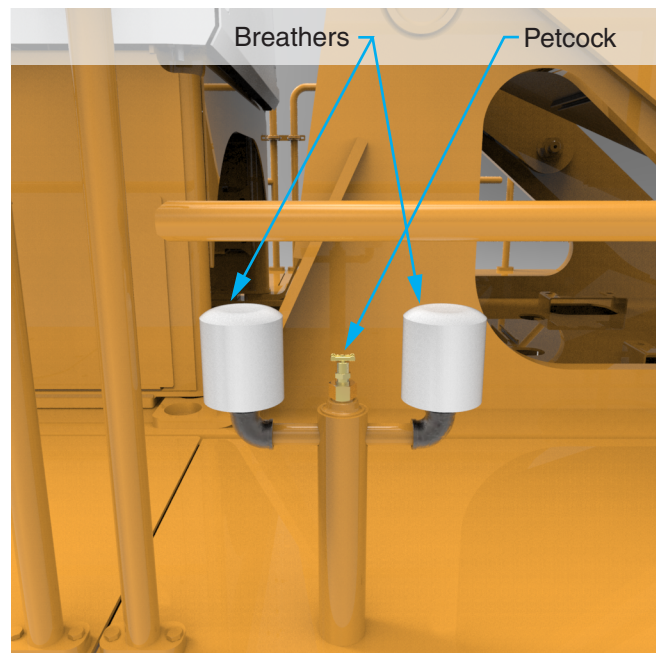

Figure 5-5-11 Hydraulic Tank Breathers
3. Relieve pressure in the tank by opening the petcock between the breathers. See Figure 5-5-11.